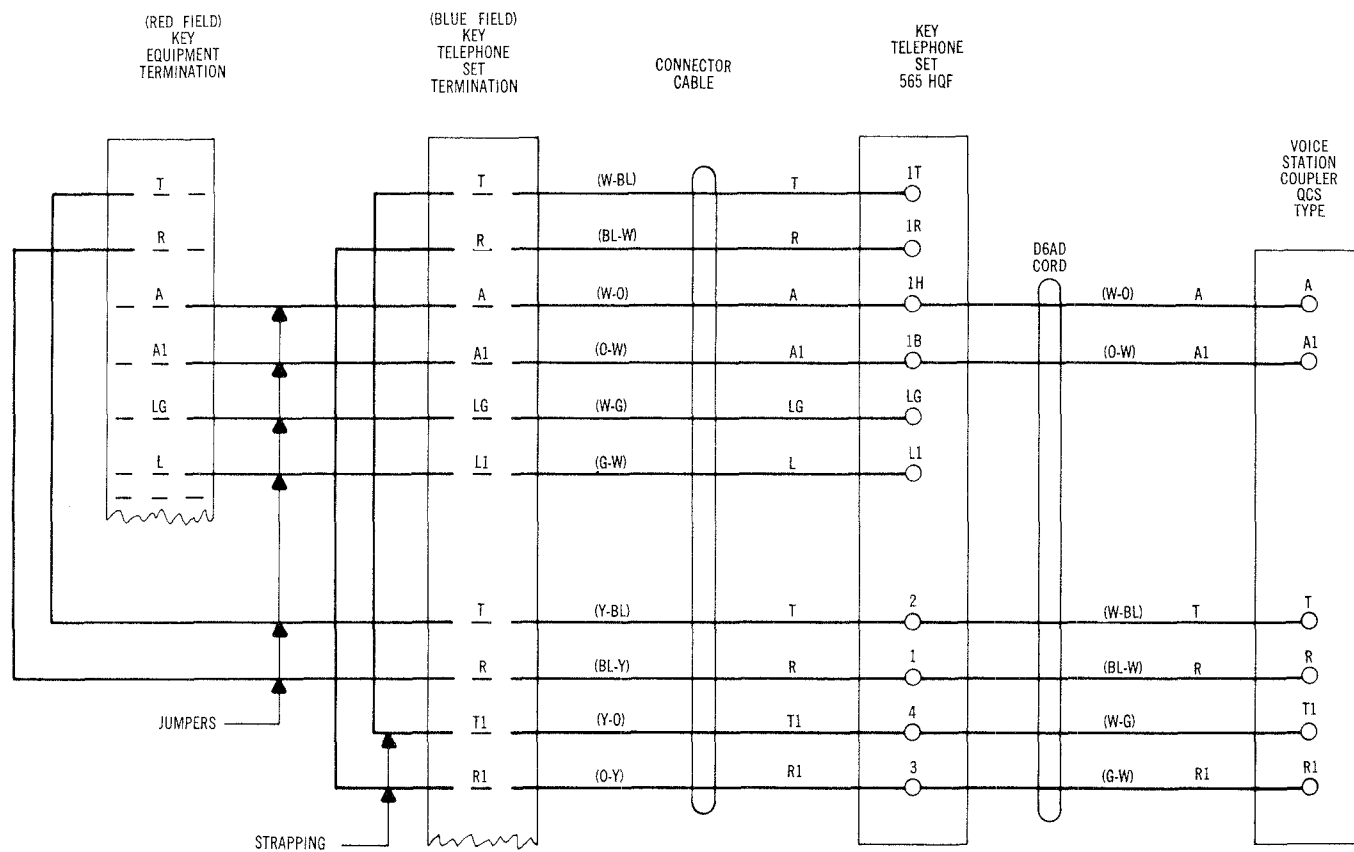

Fig. 6 — Voice Station Coupler
3.10 On key systems where 6 button key type telephones are used and it is not practical to run a separate cable for the voice station coupler, install a 565 HQF key telephone set and connect as shown in Fig. 6.